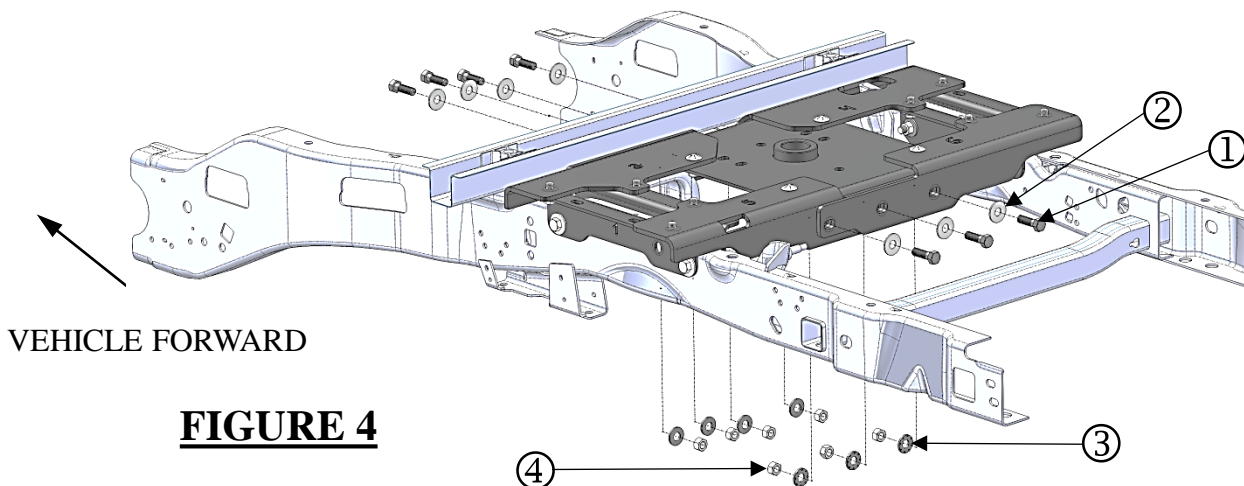

FIGURE 4
- Step 2, **Figure 4**. Install the (7) 5/8-11 X 2.00 Gr. 8 hex bolts (#1), (7) 5/8" dia. flat washers (#2), (7) 5/8" dia. conical washers (#3) & (7) 5/8-11 Gr. 8 hex nuts (#4) as shown through the rails and the center section. It may be necessary to utilize the tapered alignment pin (not included) in order to properly align the holes and slots to be able to securely fasten these parts with the fasteners.